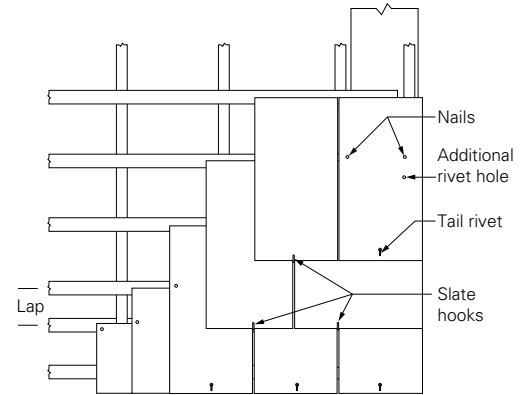

Fig. 18
- The full size slate fitted at the verge on the course above requires 2 no. 4mm nail holes drilled on the batten line as well as 2 no. 4mm disc rivet holes to accommodate the tail rivet and for the slate-and-a-half in the course above (Fig. 18). For full drilling procedure, see No. 4, page 29.